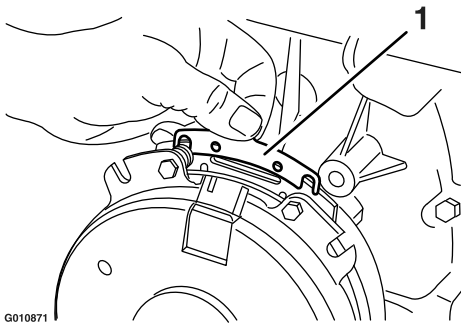

Figure 72
- B. Using needle-nose pliers, or by hand, hold the tab and remove the shim (Figure 72).